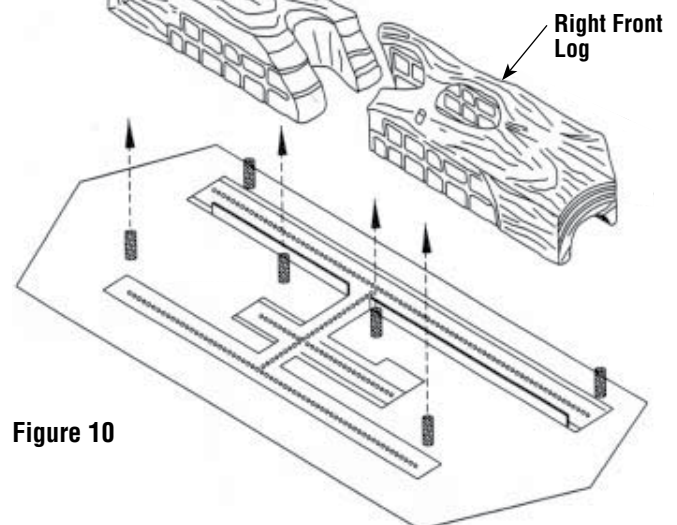

Figure 10
3. Place the left front log, with the charred surface forward, (see Figure 10) on the two left front locating pins. Next place the right front log, with the charred surface forward, on the two right front locating pins.